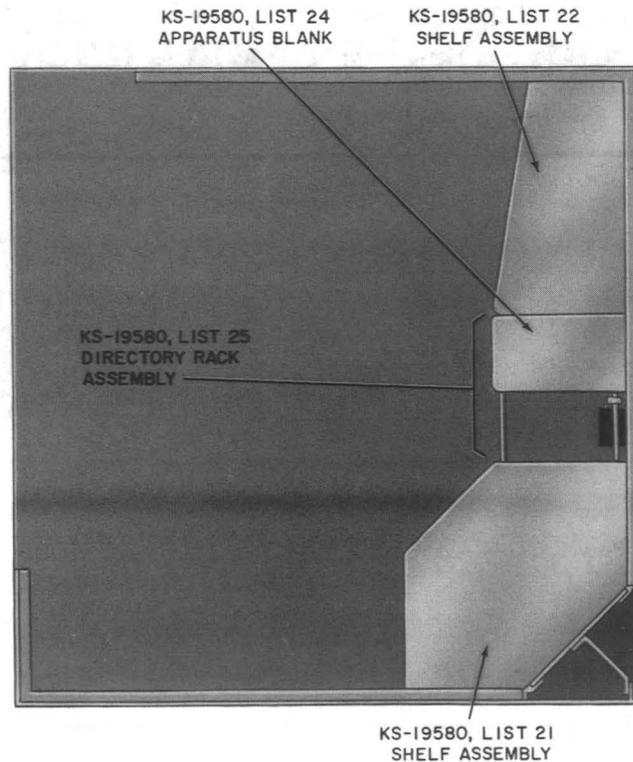

Fig. 9—Rear Wall Shelf Arrangement
2.18 Refer to Fig. 9 for optional shelf arrangements which can be used in the KS-19580, List 5 booth only.